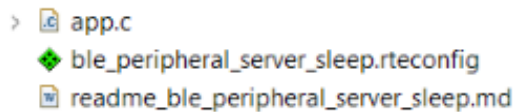

Figure 9. Selecting the Project's .rteconfig File
1. Double click `<project_name>.rteconfig`, as shown in the figure "Selecting the Project's .rteconfig File" (Figure 9).